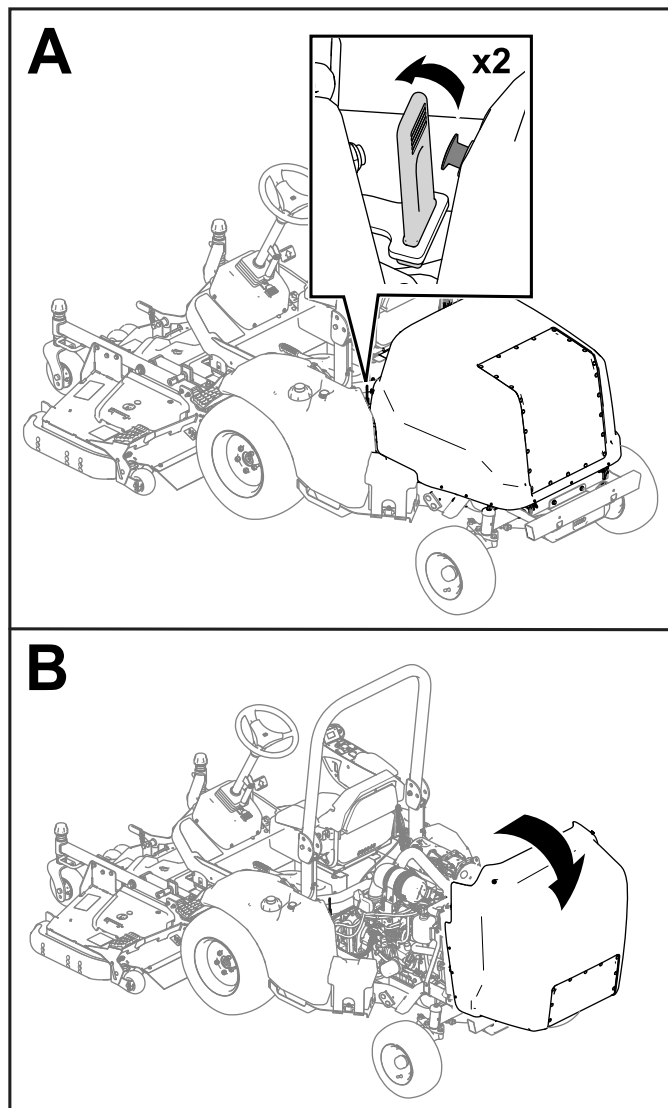

Figure 42
1. Release the straps from each side of the machine (Figure 42).
2. Raise the hood (Figure 42).